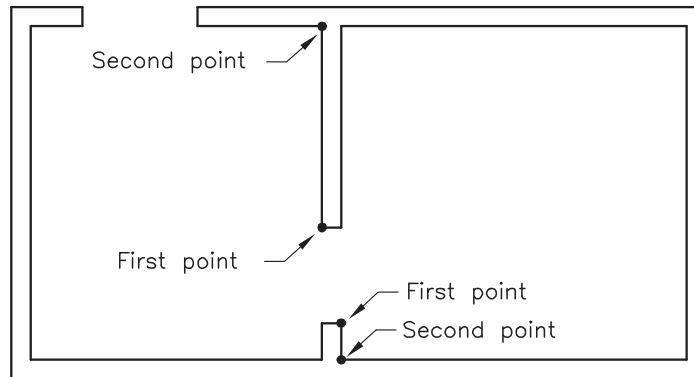

Fig. 16-10
Let's add the interior walls shown in Fig. 16-10.
- Using **MLINE**, draw the interior walls to match those shown in Fig. 16-10. Press **ENTER** to complete each wall. (You may need to turn object snap off before performing this step.)